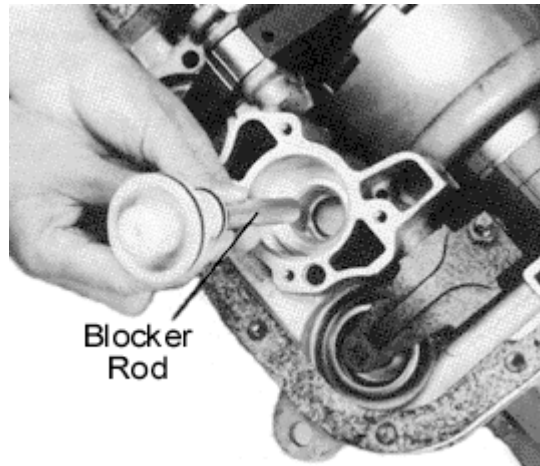

Figure 5
**Street Plus:** Install special accumulator blocker rod into the back of the piston before installation (See Figure 5) Install piston into bore being careful not to damage seal rings. Push up on piston until it stops.